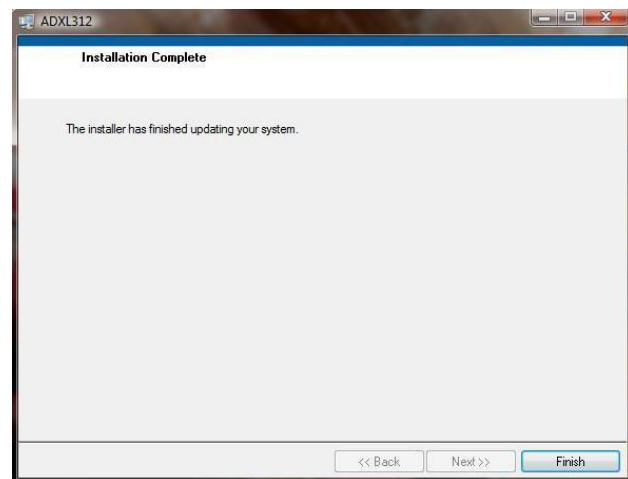

Figure 14. Installation Complete
4. Click **Next>>** to start the installation. After the installation is complete, the box shown in Figure 14 will display.